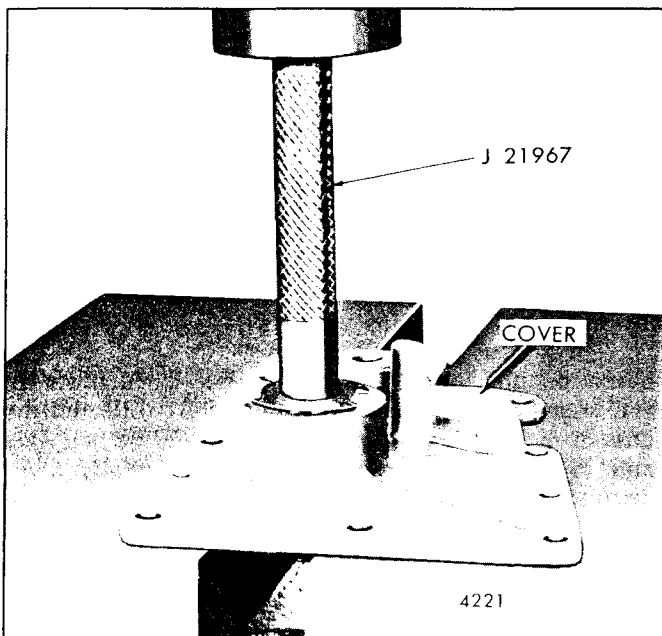

Fig. 4 - Removing Governor Cover Bearings
11. If the bearings are to be removed, place the governor cover on an arbor press and press them out with bearing remover J 21967 (Fig. 4).